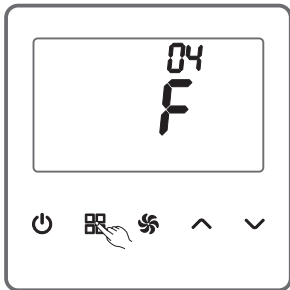

Figure 10
Celsius (°C) or Fahrenheit (°F) is available. As shown in the Figure 10, on the parameter setting page, press  (MODE) to switch the option number to 04.  (UP) or  (DOWN) is provided to allow a switch between Celsius (°C) and Fahrenheit (°F).